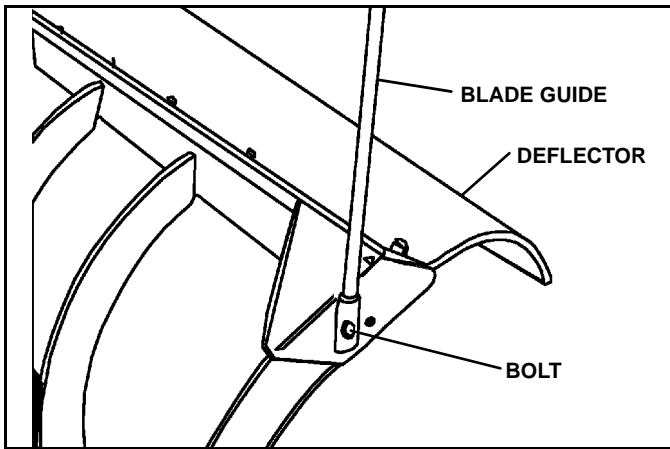

Figure 2-4
7. Install Blade Guides on outside blade ribs, secure using hardware supplied with Blade Guide Kit. (See Figure 2-4)